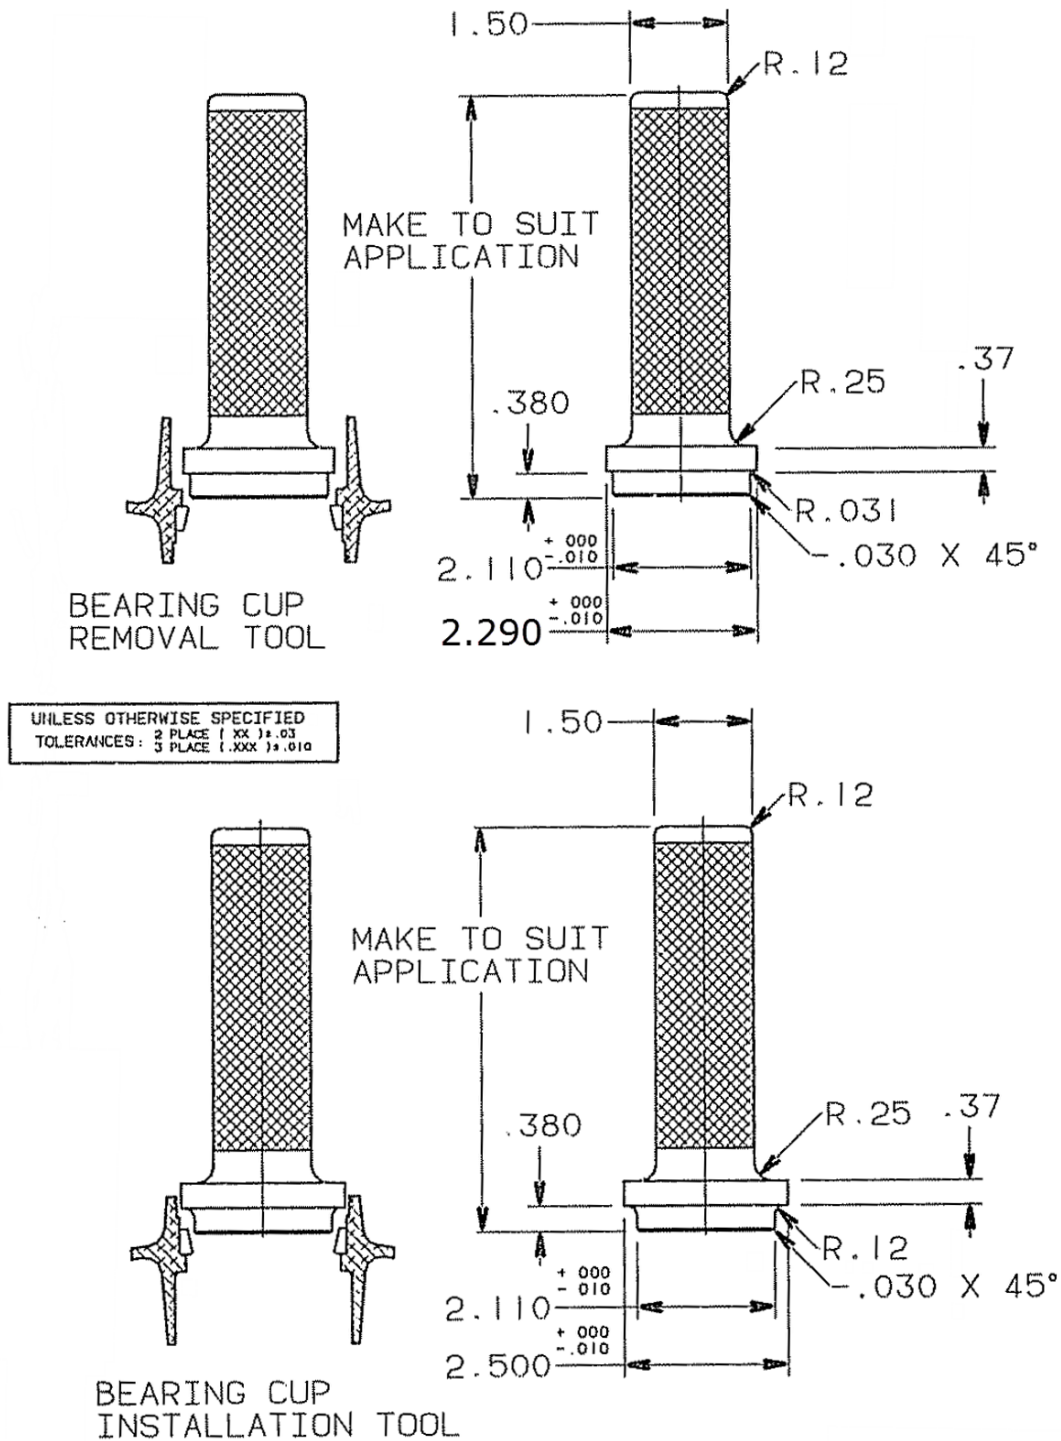

FIGURE 504
- B. Remove cup from bore by tapping it out evenly with a fiber or phenolic punch, or fabricate bearing cup removal tool (See Figure 504) and utilize by hand or adapt to arbor press. Exercise extreme care to avoid raising burrs in the hub bore.
- H. Hand press the bearing cup into the coated housing making sure the backing surface of the cup mates to the shoulder of the bearing bore. Avoid cocking the cup during installation. (Installation tool for cup is pictured in Figure 504 if desired)